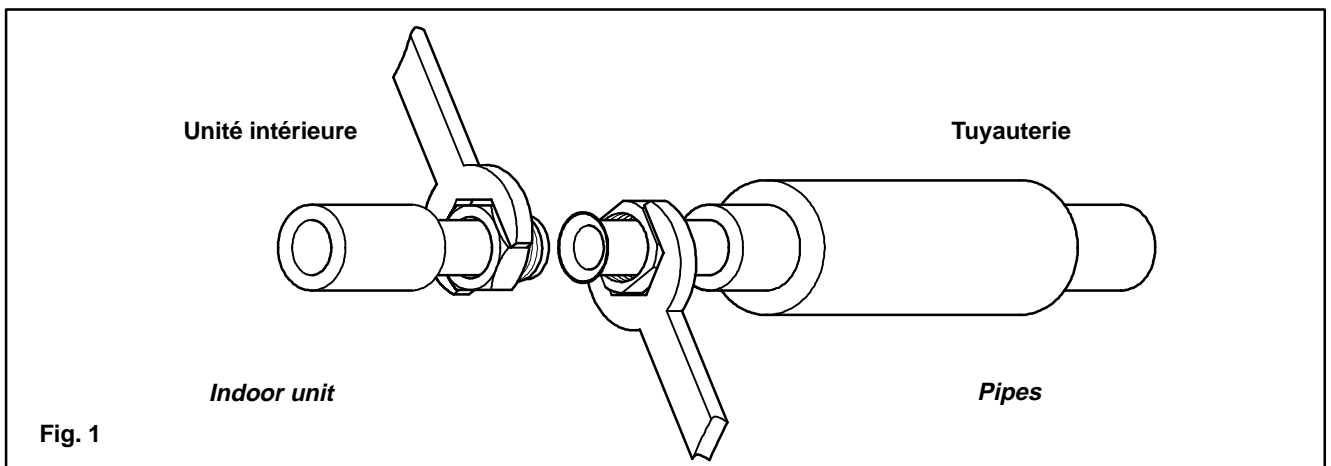

Fig. 1
▶ Serrer la connexion en utilisant 2 clefs (Fig.1)
▶ Tighten the connection by using two spanners (Fig.1)